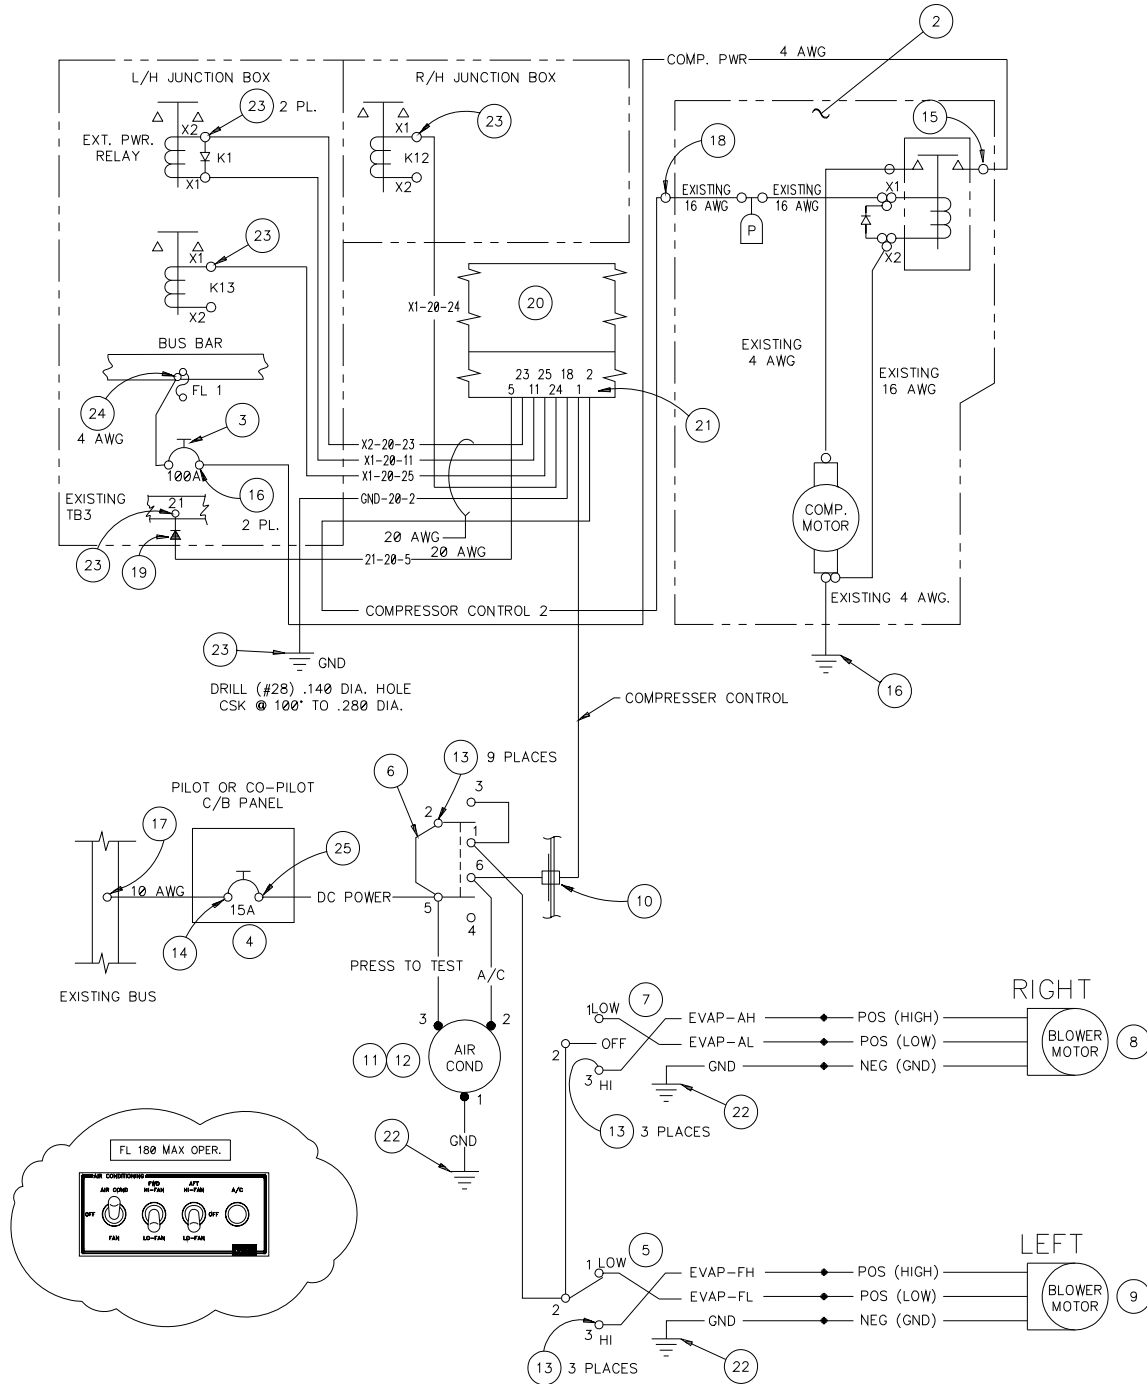

Figure 1: Electrical System
3. Check if power is present at wire EVAP-FL (at splice). If power is present, the low speed resistor (Ref. 21-50-04 IPC Fig. 1, item 21) has failed.
3. Check if power and ground present at fan wire splices and GND terminal strip. If power and ground are present, blower motor (Ref. 21-50-04 IPC Fig.1, item 22) has failed.
3. Check if power is present at wire EVAP-AL (at splice). If power is present, the low speed resistor (Ref. 21-50-04 IPC Fig. 1, item 21) has failed.